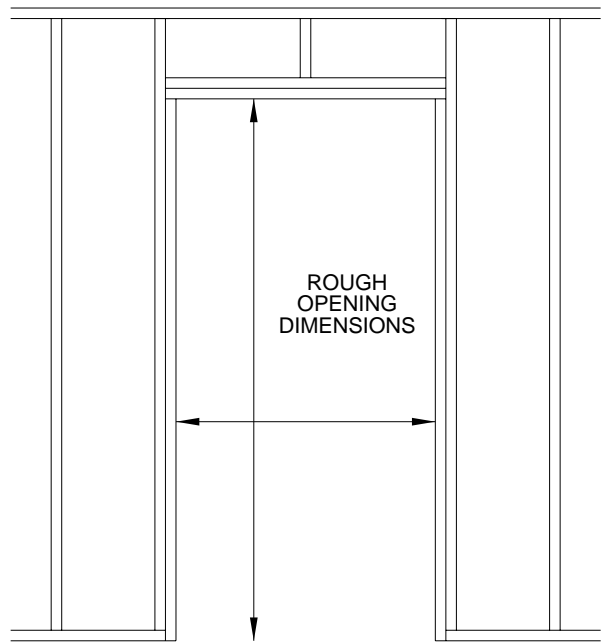

Figure 18 – Rough opening
**10.1 Rough opening** (see figure 18)